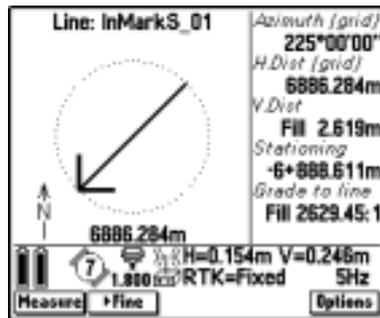

Figure 17.9 Staking out a line
6. Use the graphical display or the text display to navigate to the point. See Figure 17.9. For more information, see Using the Graphical Display to Navigate, page 400.